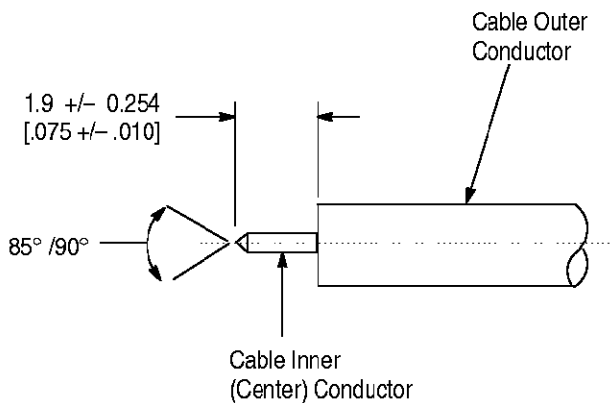

Figure 4
a. Trim the center conductor to the length shown in Figure 4.
b. File the blunt end of the center conductor to produce an 85° to 90° cone. See Figure 4.